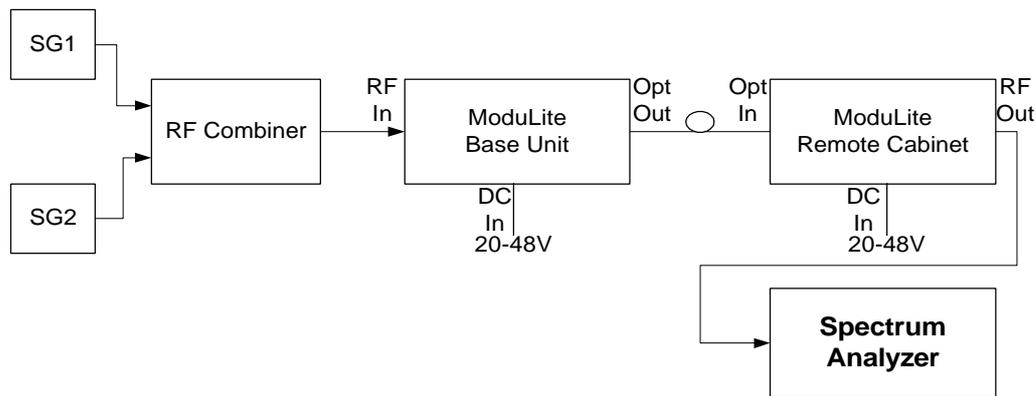

Figure 11: Spectrum Analyzer Setup Test
3. Connect the 2-tone signal to the input of the base (see Figure 11).